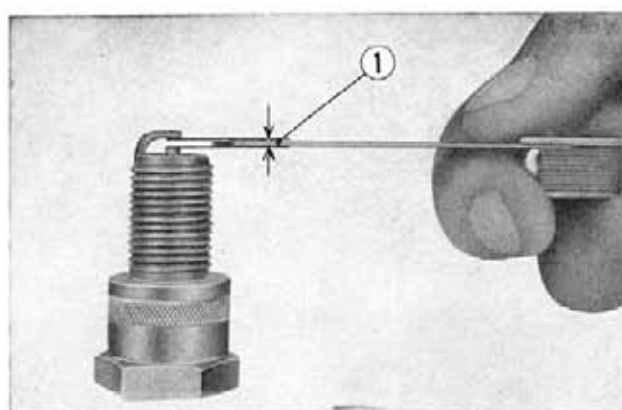

Fig. 7-12 ① Spark plug gap
3. After completing inspection of section 2 adjust spark plug gap to 0.024~0.028 in (0.6~0.7 mm). The gap can be measured by a thickness gauge. The adjustment is made by bending the negative (ground) electrode (Fig. 7-12)